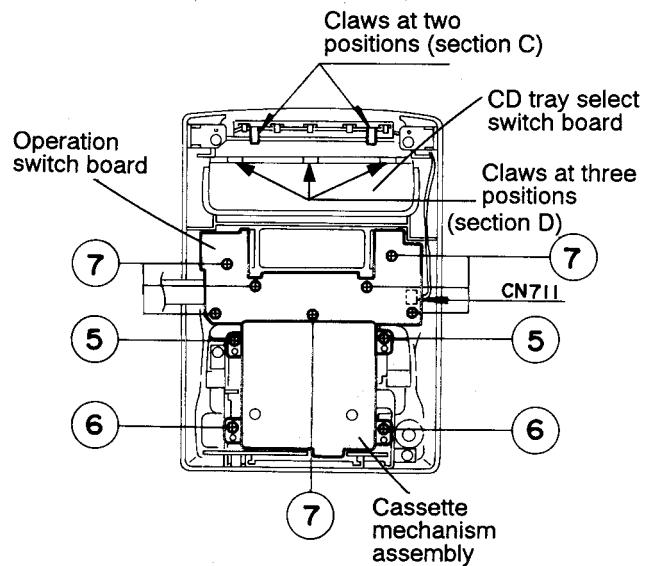

Fig. 5-7
◆ **Removing the CD tray select and operation switch boards** (Figs. 5-7 to 5-9)
1. Remove seven screws ⑦ securing the operation switch board (Fig. 5-7).
2. Remove the 2-pin connector coming from the CD tray select switch board from connector CN711 on the operation switch board (Fig. 5-7).